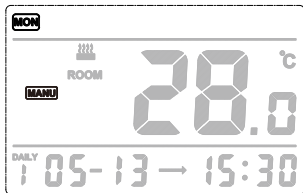

Fig.2
6. The DAILY display flashing (Fig.2)
7. Press the key "▲" or "▼" to select the desired DAILY 1-6 (Fig.2)